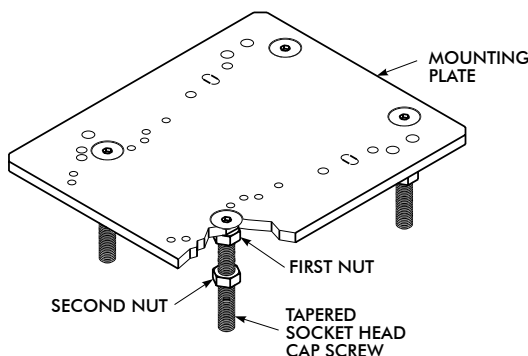

Figure 2.3.1a
1. Place top motor mounting plate/cap screw assembly onto the mounting brackets so that the part number on the plate is towards the output end of the speed reducer; reference Figure 2.3.1a.